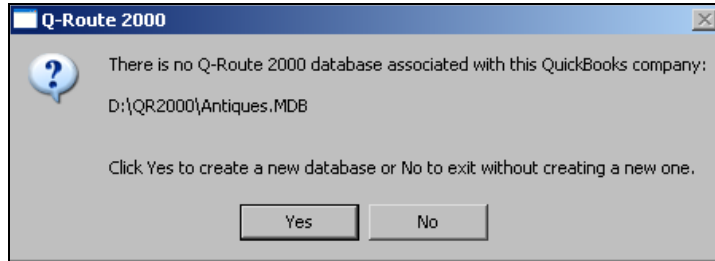

Figure 2.11
10. A dialog box similar to **Figure 2.11** will be displayed on your screen. This screen will only be displayed once, and is required for QRoute to complete the integration with QuickBooks. Select **Yes** to create the required QRoute database.